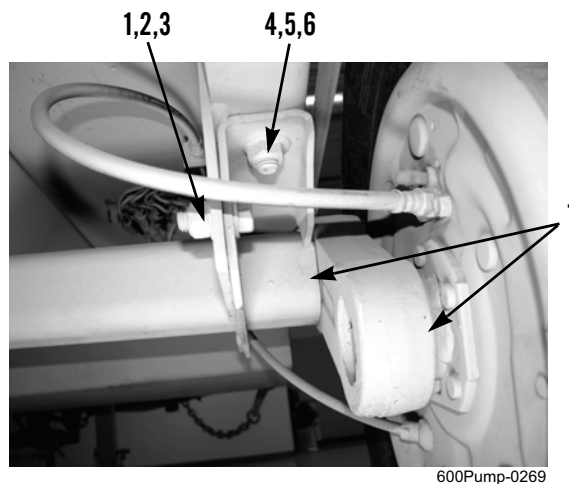

Figure 1. Axle Mounting Hardware.
4. Remove brakeshoes, hand brake cable, hydraulic brake line, and backing plate from each end of axle (Figure 1, Item 7) (WP 0051).
5. Position a floor jack under rear of trailer and position jack saddle under midpoint of axle (Figure 1, Item 7).
6. At each end of axle (Figure 1, Item 7), remove two locknuts (Figure 1, Item 4), four washers (Figure 1, Item 5), and two bolts (Figure 1, Item 6) from axle and top axle mounts. Discard locknuts.
7. At each end of axle (Figure 1, Item 7), remove two locknuts (Figure 1, Item 1), four washers (Figure 1, Item 2), and two bolts (Figure 1, Item 3) from axle and side axle mounts. Discard locknuts.
8. Carefully lower axle (Figure 1, Item 7) and remove axle from trailer.
1. Place axle (Figure 1, Item 7) on a floor jack with jack saddle under midpoint of axle. Roll axle into position under trailer.
3. Install two bolts (Figure 1, Item 6), four washers (Figure 1, Item 5), and two new locknuts (Figure 1, Item 4) on each end of axle (Figure 1, Item 7) and top axle mounts. DO NOT fully tighten locknuts.
4. Install two bolts (Figure 1, Item 3), four washers (Figure 1, Item 2), and two new locknuts (Figure 1, Item 1) on each end of axle (Figure 1, Item 7) and side axle mounts. DO NOT fully tighten locknuts.
5. Tighten locknuts (Figure 1, Item 4) at top axle mounts to 130 ± 13 lb-ft (176 ± 18 Nm).
6. Tighten locknuts (Figure 1, Item 1) at side axle mounts to 142 ± 14 lb-ft (193 ± 19 Nm).
7. Install backing plate, hydraulic brake line, hand brake cable, and brakeshoes at each end of axle (Figure 1, Item 7) (WP 0051).